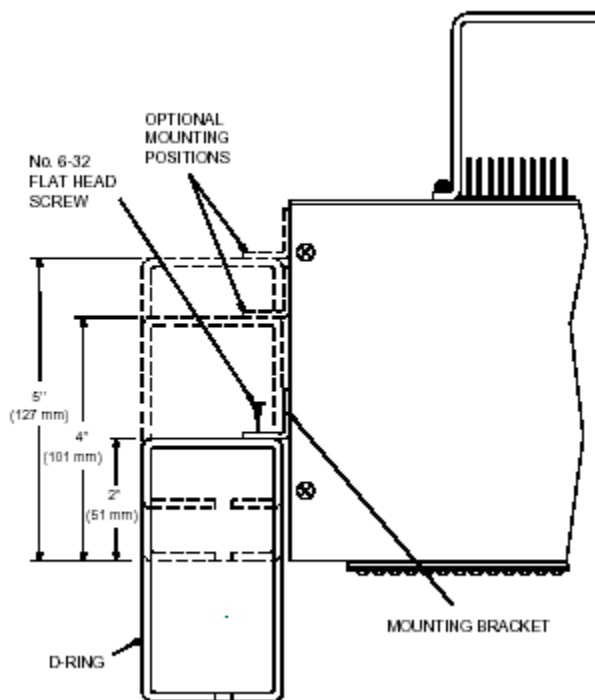

Figure 1. Attaching D-Ring and Mounting Bracket
2. Attach the appropriate 2.5-inch by 4-inch, or 4-inch by 4-inch (65 mm by 100 mm, or 100 mm by 100 mm) D-Rings, provided, to the mounting bracket (two per bracket) using eight No. 6-32 screws provided (see Figure 1).
3. Position mounting bracket on side of jack panel (see Figure 1).